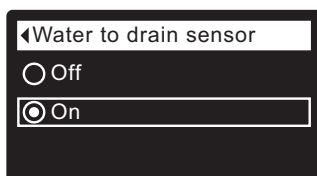

FIG. 94
7. Press the SELECT (O) button to display the Water to drain sensor screen (See Figure 94).